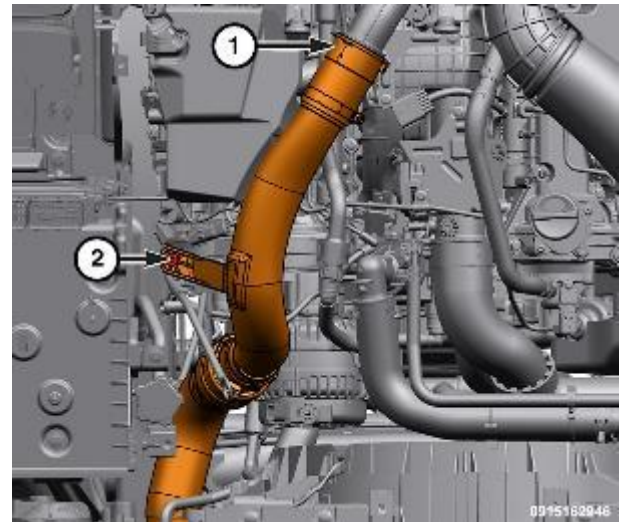

Figure 99 – CAC Hose
15. Remove the Charge Air Cooler (CAC) hose bolt (2) (Figure 99).
16. Release the retaining clip (1) and disconnect the CAC hose from the turbocharger elbow and position aside (Figure 99).